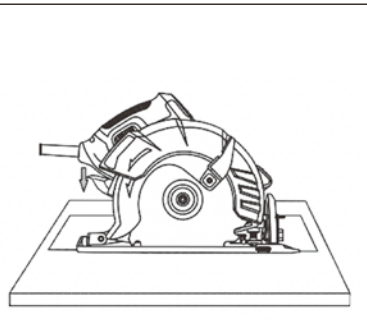

FIG. 12
7. Start the saw and slowly lower the blade onto the workpiece while holding the blade guard lever forward to allow the blade to cut into the workpiece (Fig. 12). Allow the blade to cut through the wood.